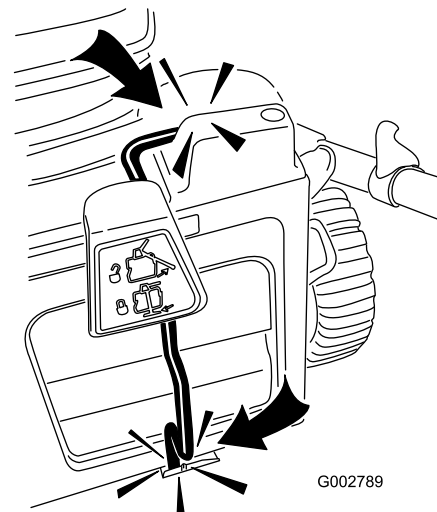

Figure 9
3. Ensure that the lever snaps snugly into place in both the switch channel and lever retainer (Figure 9). **If they do not, your mower will not start!**